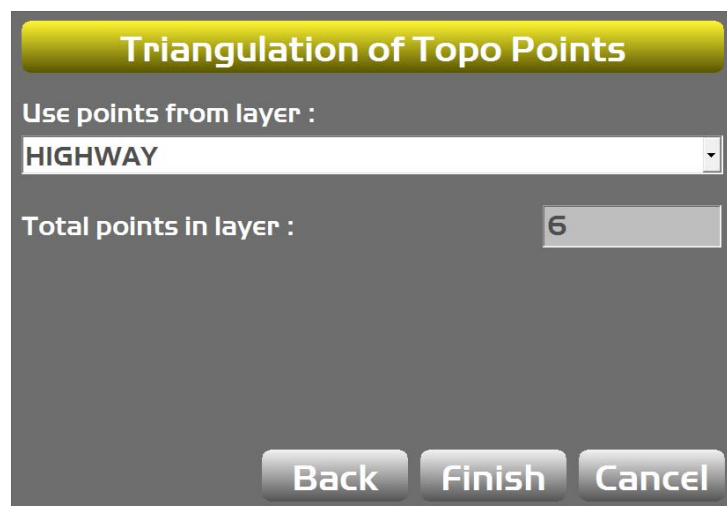

Figure 40: Select a Layer
4. Tap **Next**. The **Triangulation of Topo Points** screen appears (Figure 40).
5. Select a layer containing the desired points from the **Use points from layer** drop-down list (Figure 40).